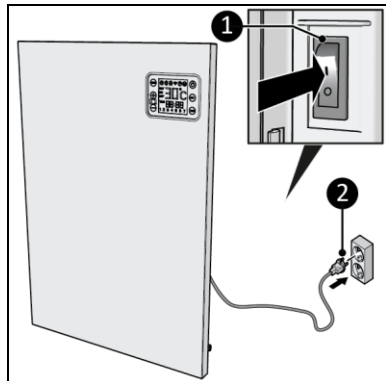

Figure 13
2. Make sure the ON/OFF switch is in the OFF position (Figure 13, pos. 1).
3. Place the power plug (Figure 13, pos. 2) into an earthed wall socket that is easily accessible. Use an earthed wall socket with a minimum power of 1200 Watt.